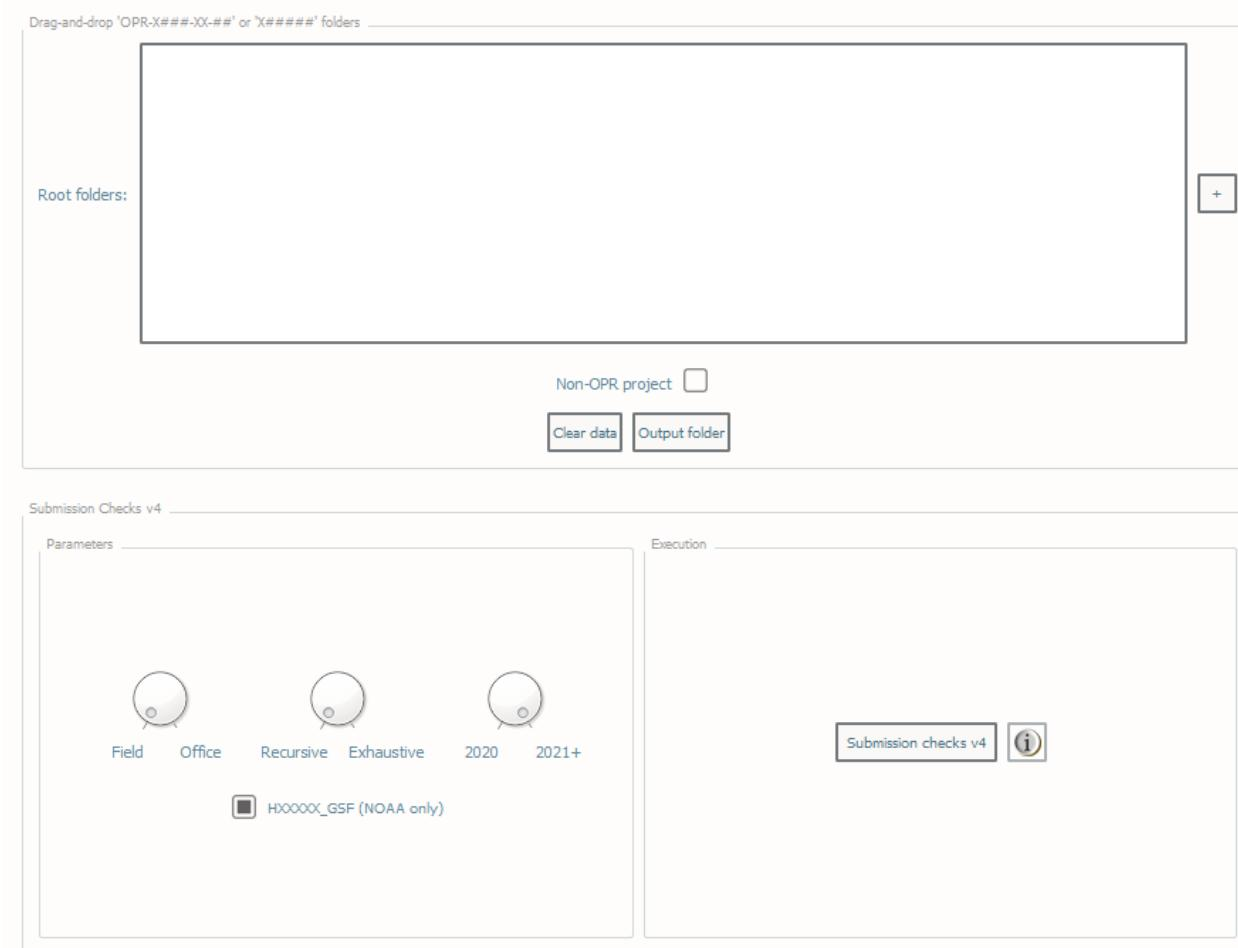

Fig. 2.56: The **Submission check** interface.
- In **Parameters** (Fig. 2.56, left side):
- In **Execution** (Fig. 2.56, right side), click **Submission checks v4**.